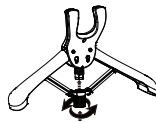

FIG 2
7. Open hanger arms and tighten up the screwcap to the pole. (FIG 2)